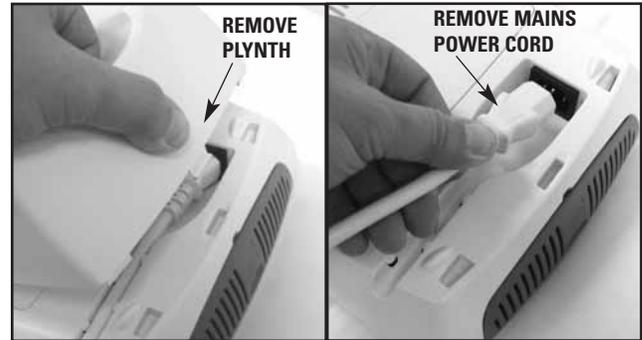

FIGURE 6.1
2. Remove the plynth from the bottom of the system. See Figure 6.1.
3. Remove the Mains Power Cord from the system. See Figure 6.1.